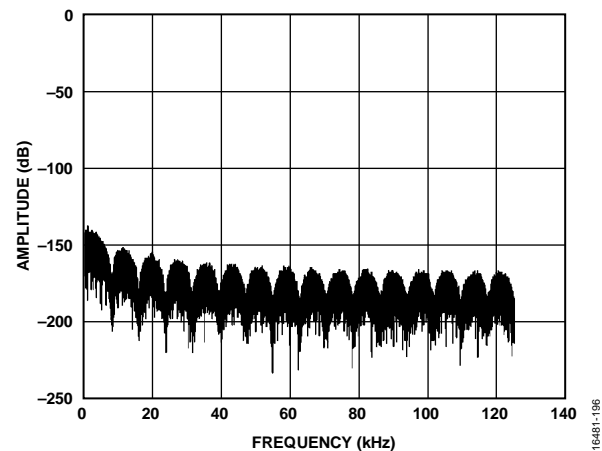

Figure 96. Example Filter Profile Upload
The following sequence programs a sinc1 filter. The coefficients in Address 0 to Address 23 = 0. The coefficients from Address 24 to Address 55 = 131,072 ($2^{22}/32$). When MCLK = 16.384 MHz and ODR = 256 kHz, the filter notch appears at 8 kHz and multiplies of 8 kHz. This filter provides low noise and is recognizable by the distinctive filter profile shown in Figure 96.
- Gather data. The resulting filter profile is shown in Figure 96.